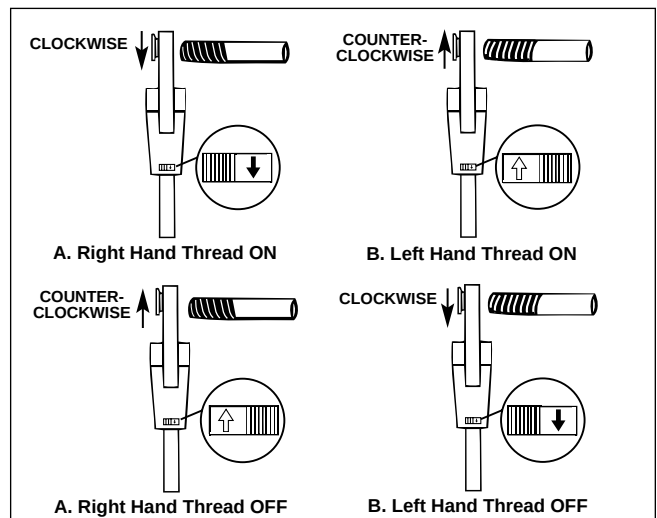

Figure 6 – Direction Change Switch/Die Head Orientation
5. Position the directional switch for the desired right or left hand thread (*Figure 6*).